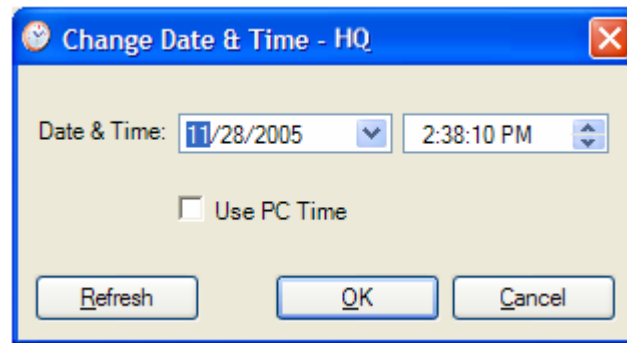

Figure 4-14. Manually changing date and time
- To manually set the date and time, click **Change** (Figure 4-14) and edit the new values.